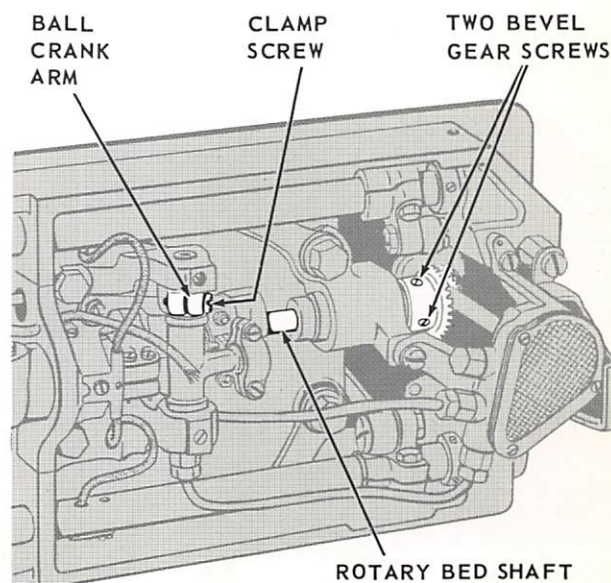
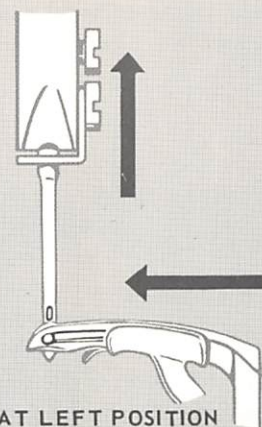

Fig. 21. Adjusting and Timing the Looper
Fig. 24. Needle Eye just Above Looper
To adjust, loosen clamp screw on ball crank arm, shown in Fig. 21. Rotate ball crank arm toward right or left, as required, to obtain correct distance.
2. Upon return (backward) stroke of looper, eye of needle (at its left position) must be just above the looper, as shown in Fig. 24, when looper eye passes centerline of needle. To adjust, loosen the two bevel gear screws, shown in Fig. 21, page 9) and advance or retard the bed rotary shaft, as required. Securely tighten the two bevel gear screws.